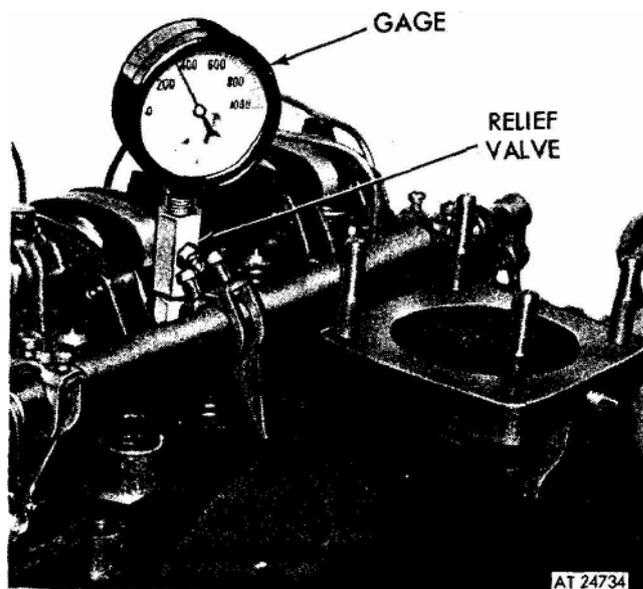

Figure 1. Checking compression pressure.
3. Remove the injector and install the adaptor and pressure gage from Diagnosis Kit J 9531-01 (fig. 1).